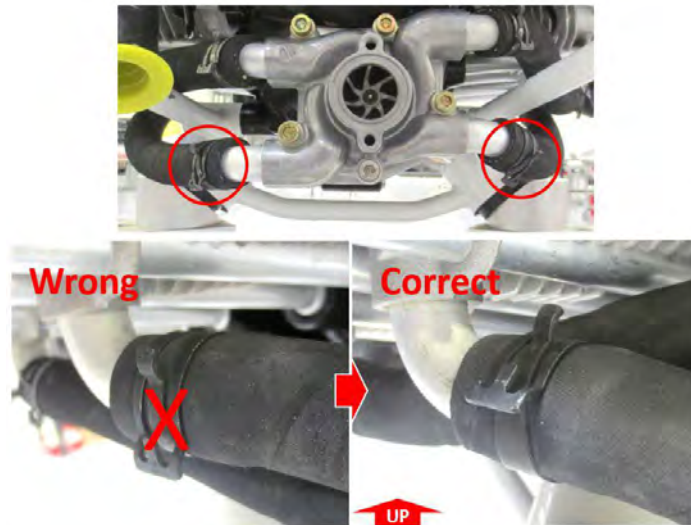

FIGURE 16-15
2. Disconnect the two coolant hoses where they attach to the lower water pump fittings as shown in the upper image of Figure 16-15.
3. Connect the two coolant hoses where they attach to the lower water pump fittings as shown in the upper image of Figure 16-15. Rotate the hose clamps on the hoses so the tabs are on top as shown in the lower graphic in Figure 16-15 (this prevents tabs contacting the firewall during engine installation).